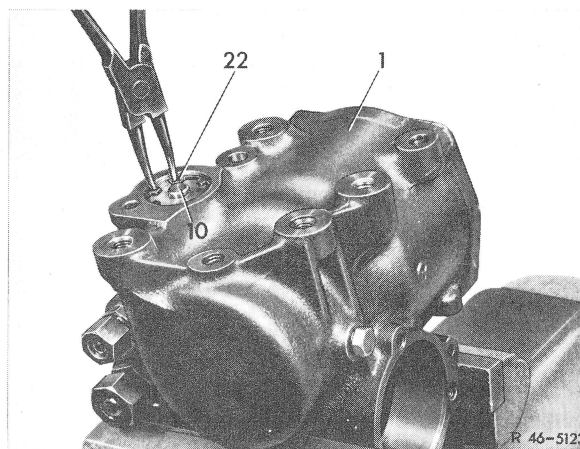

Fig. 26
25 Install locking ring (22) into steering case (1) in such a manner that the lugs of the ring are exerting pressure on closing cover (10). If required, knock-in locking ring slightly by means of a mandrel until correctly fitted in groove of steering case (Fig. 26).